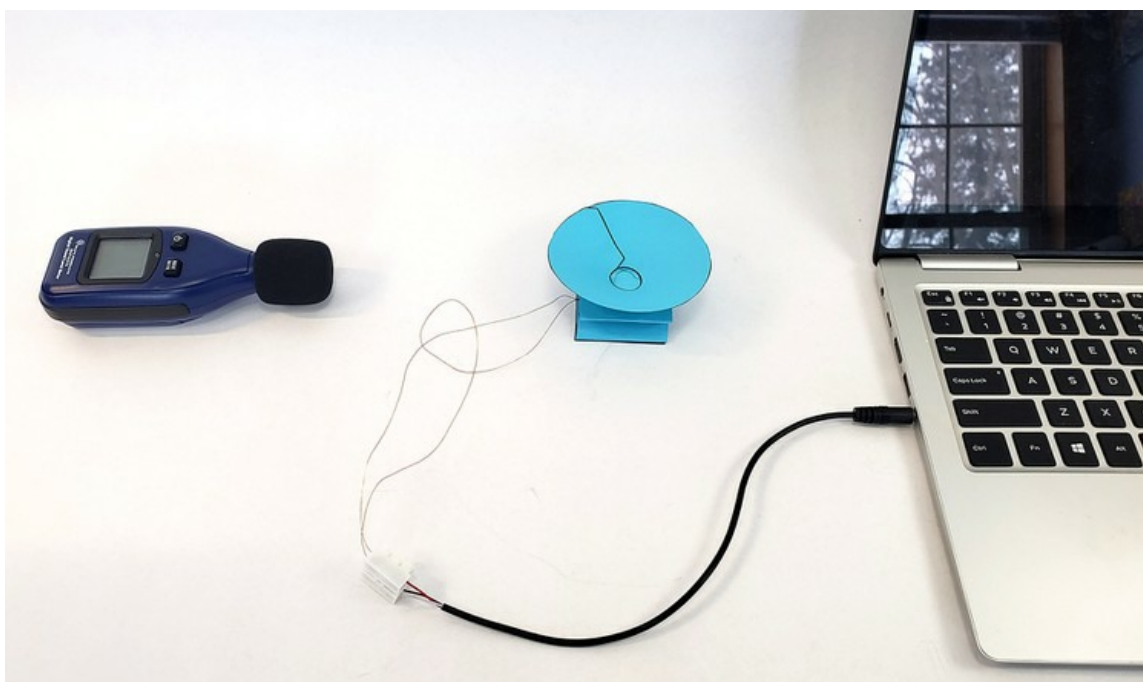

Figure 23. Experimental setup for testing your paper speaker's frequency response.
4) Place your measurement device (decibel meter or phone) a fixed distance from your paper speaker. It is important to keep this distance *and* the orientation of the device constant throughout your experiment, as these can affect your measurements. Figure 23 shows an example experimental setup, with a laptop connected to the paper speaker and a decibel meter used to measure the sound.